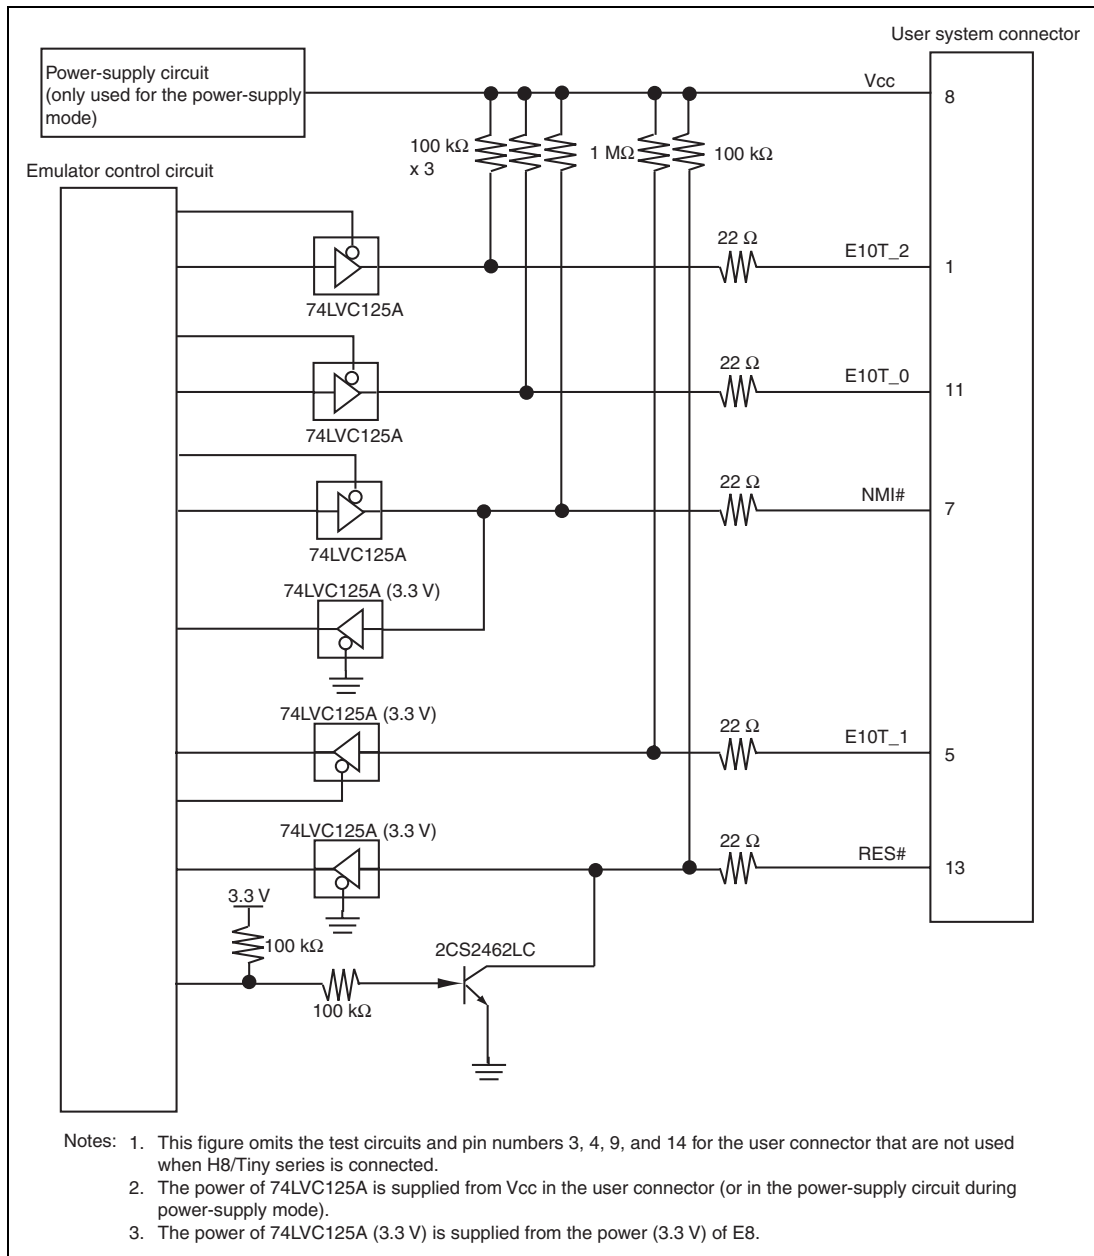

Figure 4.5 Interface Circuit in the E8 Emulator (Reference)
- Figures 4.5 and 4.6 show the interface circuit in the E8 and E8a emulators, respectively. Use these figures as references when determining the pull-up resistance value.